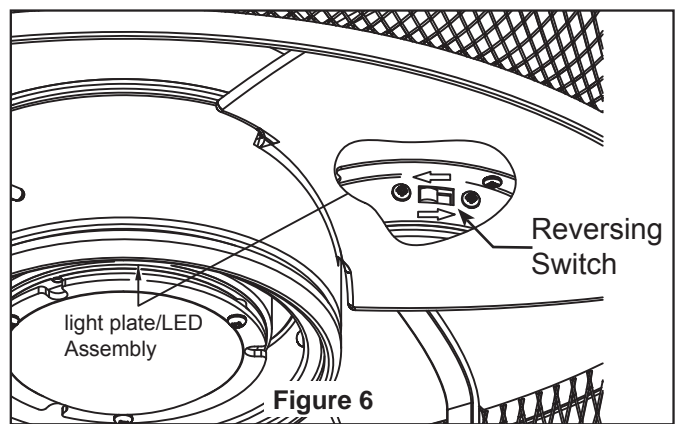

Figure 6
6. Secure the glass to the light kit by twisting in a clockwise direction. Do not over-tighten. (Figure 6)
6. If airflow is desired in the opposite direction, turn the fan off and wait for the blades to stop turning. Then slide the reverse switch on light plate/LED assembly to the opposite position and turn fan on again. (Figure 6 )